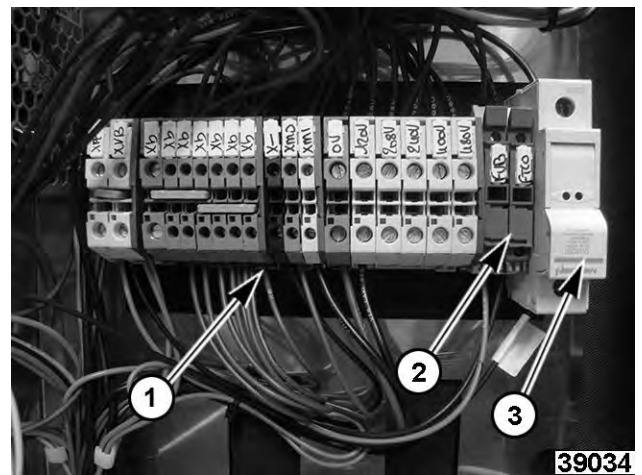

Fig. 15
- Locate fuses (2, 3, Fig. 15) which are located on right side of terminal block (1, Fig. 15).
- Pull down from top of fuse holder (2, Fig. 15) to access 4 amp fuse for control circuit.
- Lift up on bottom of fuse holder (3, Fig. 15) to access 10 amp fuse for motor.